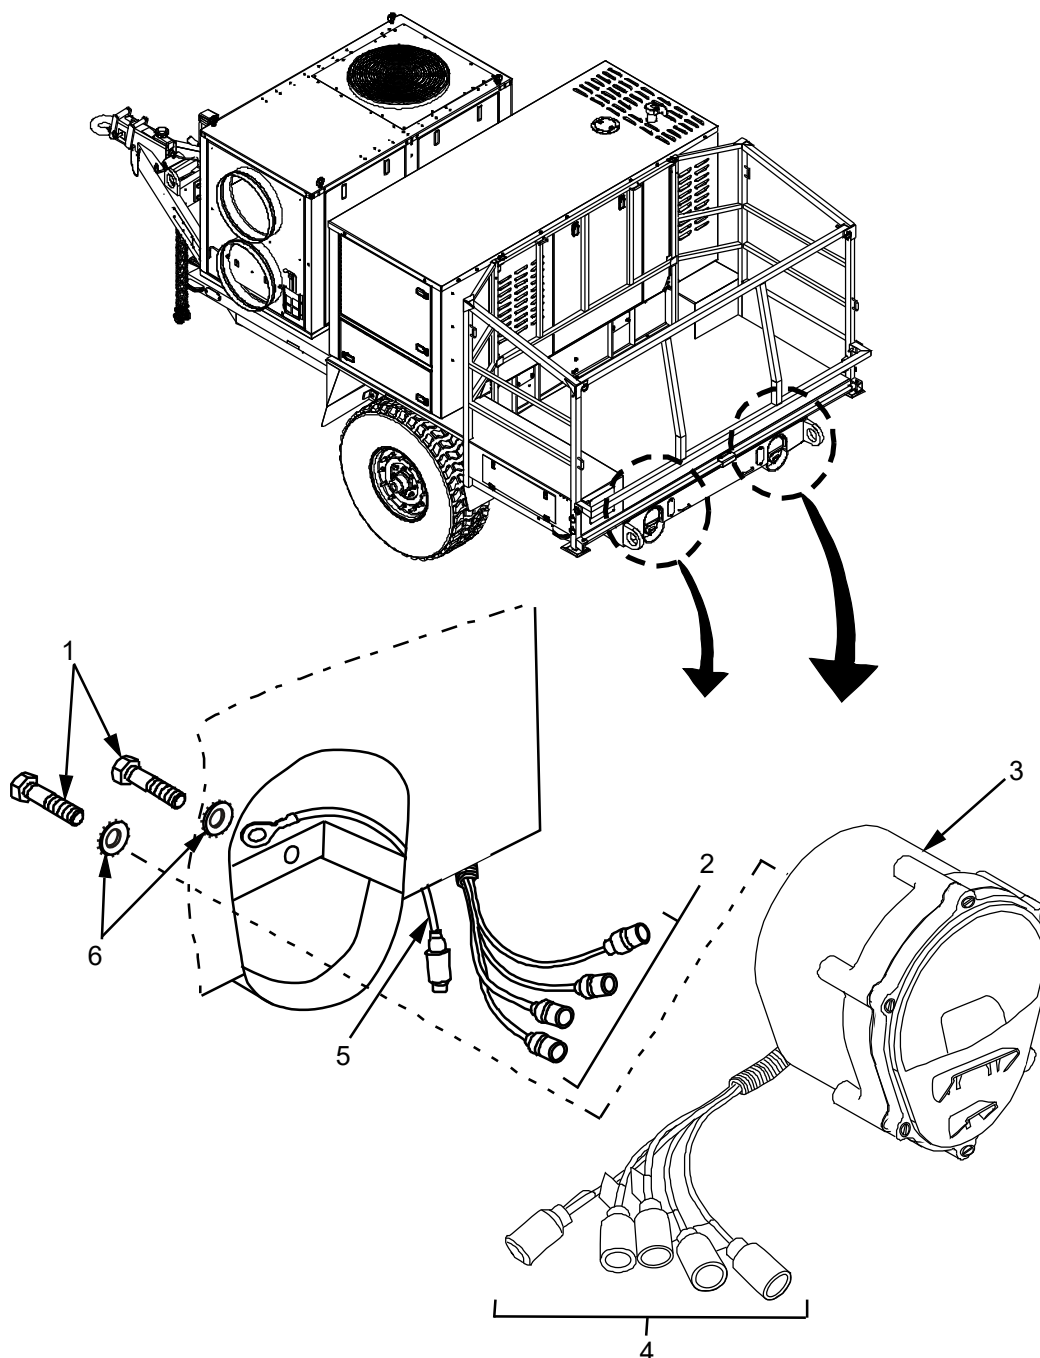

Figure 3. Vehicle Stop Light (LED) Removal/Replacement.
When performing the following steps, be observant of trailer and cable assembly (Figure 3, Item 2) or stop light pig tail (Figure 3, Item 4).
1. Remove two strap ties that secure the vehicle stop light connectors on cable assembly (Figure 3, Item 2) and stop light pig tail (Figure 3, Item 4).
2. Disconnect stop light pig-tail (Figure 3, Item 4) from the cable assembly (Figure 3, Item 2).
3. Remove and retain two bolts (Figure 3, Item 1) and flat washers (Figure 3, Item 6) and ground connection (Figure 3, Item 5) from rear of the vehicle stop light assembly (Figure 3, Item 3).
4. Remove and properly discard vehicle stop light assembly (Figure 3, Item 3).
1. Feed stop light pig-tail (Figure 3, Item 4) through trailer and insert vehicle stop light assembly (Figure 3, Item 3).
When performing the following step, make sure that area where ground cable (Figure 3, Item 5) is free and clear of all paint, grease, dirt or other items which may prevent good electrical connection.
2. Secure vehicle stop light assembly (Figure 3, Item 3) and ground cable (Figure 3, Item 5) to trailer using two bolts (Figure 3, Item 1) and flat washers (Figure 3, Item 6).
3. Connect stop light pig-tail (Figure 3, Item 4) to cable assembly (Figure 3, Item 2).